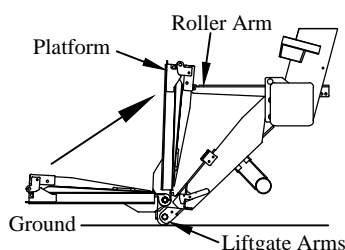

Figure 8: Step 14.
- Step 14. With the liftgate arms touching the ground, stand to the side of the platform, and fold the platform closed until it rests on the roller arm (Figure 8).